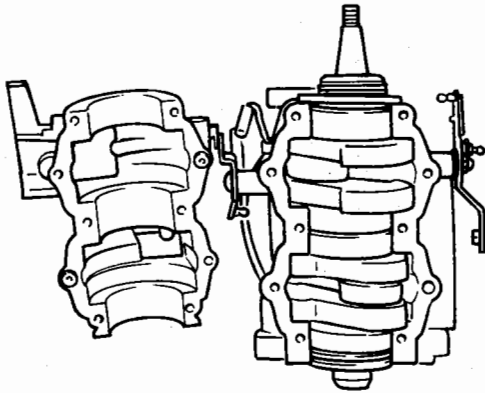

Fig. 35 Removing the crankcase
5) Strip the crankcase. (Fig. 35)